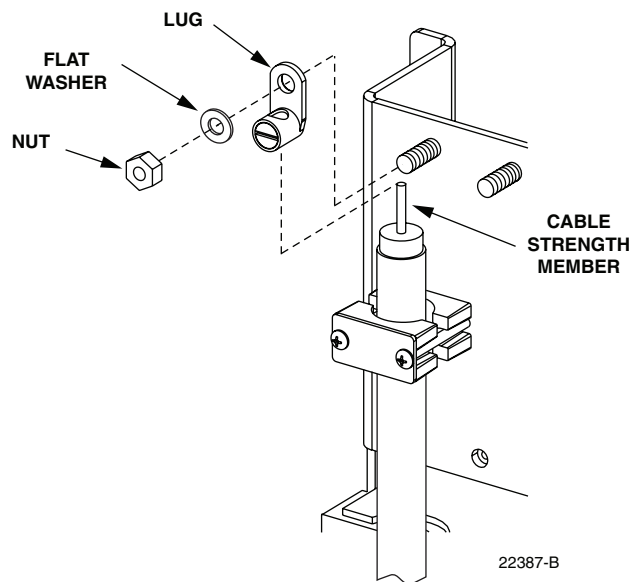

Figure 18. Strength Member Lug Installation
9. Insert the central strength member into the lug as shown in Figure 18 and then install the lug on the cable bracket.